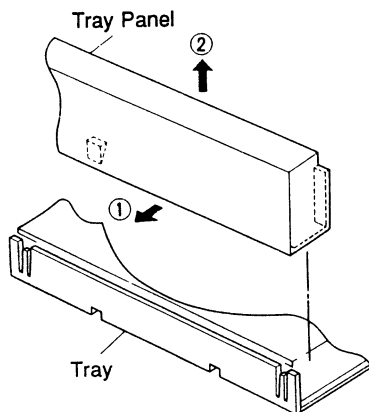

Fig. 2-2
- 2) Pull the center of the lower part of the tray panel slightly out to remove the hook and remove the tray panel right upwardly. (See Fig.2-2.)